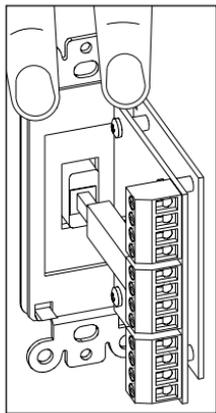

Figure 1
2. Holding the ABA-1D as shown in **(Figure 1)**, locate the two plastic mounting tabs at the top rear of the Decora insert. Using two fingers, simultaneously press both tabs down (towards the center of the insert) and forward (away from you) until the insert pops free from its mounting slots.